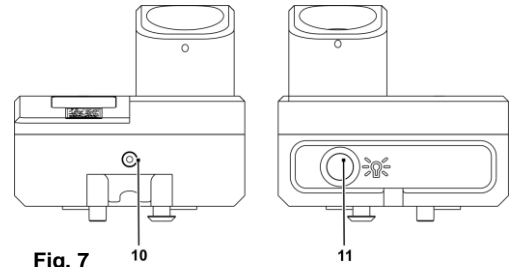

Fig. 7
The integrated laser module, the yellow LED (10, Fig. 7) for the scale illumination of the measuring bar and the green LED for the cross-hair illumination of the optics were supplied by two AAA 1.5 V batteries or 1.2 V rechargeable batteries.
- The LED button (11, Fig. 7) activates both LED lamps parallel for the time of pushing the button.